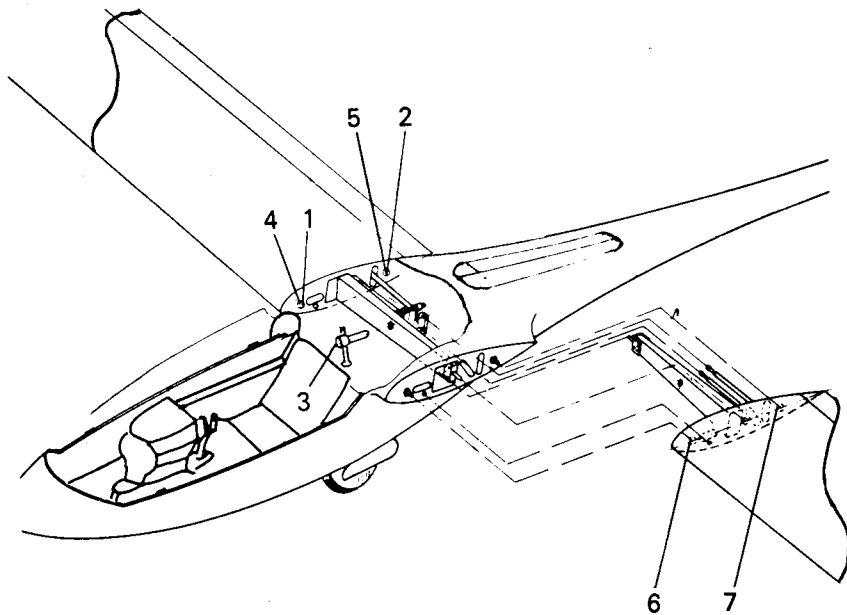
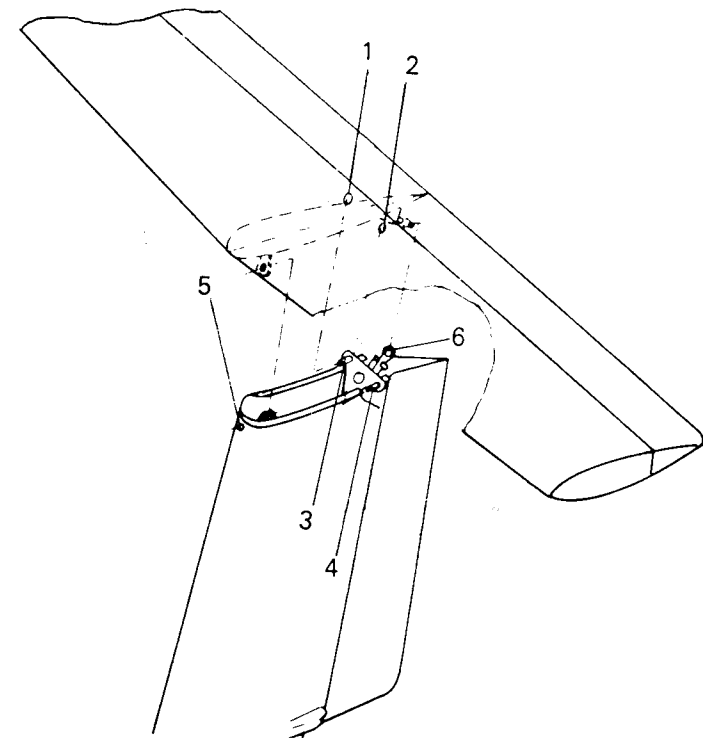

Fig 2
Fig 3
1.2. Wing assembly (Figure 2)
- Insert the right-hand wing ensuring that the wing bevel pins (1) and (2) are in the seats (4) and (5) in the fuselage.
- Insert the left-hand wing in the same way and watch that the bevel pins (6) and (7) go correctly into their seats. Draw the wings together with the wing assembly tool and install the main wing pin and secure it using a Fokker-pin. It is necessary to lift the wing tips when using the assembly tool.
1.3. Tailplane assembly (Fig 3)